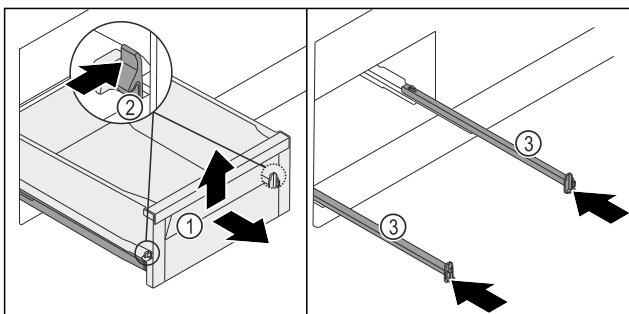

Fig. 123
- ▶ Pull the drawer Fig. 123 (1) out as far as it will go.
- ▶ Press the left and right clamp Fig. 123 (2) inwards at the same time.
- ▶ Drawer Fig. 123 (1) detaches from the rails.
- ▶ Lift up the drawer Fig. 123 (1) forwards.
- ▶ Remove the drawer Fig. 123 (1) forwards.
- ▶ Push in the rails Fig. 123 (3).